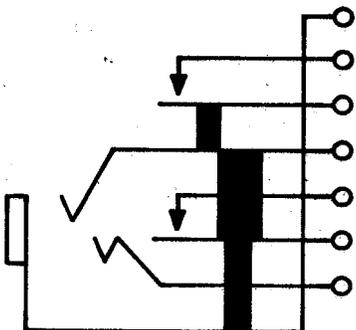

Fig. 10—324C Jack
**2.10 324C:** This single-mounted jack (Fig. 10) is used with the 310 or similar-type plugs. The 324C jack is heavily insulated.